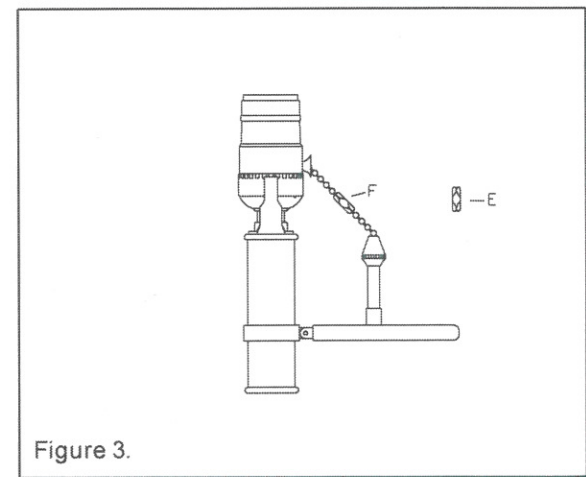

Figure 3.
2. If your pull chain breaks outside of the pull chain socket or pull switch assembly you will need to use a ball chain connector E shown in Fig.3 to fix your lamp.
- After repair your Clever Lever Switch™ assembly, should look like Fig.3.